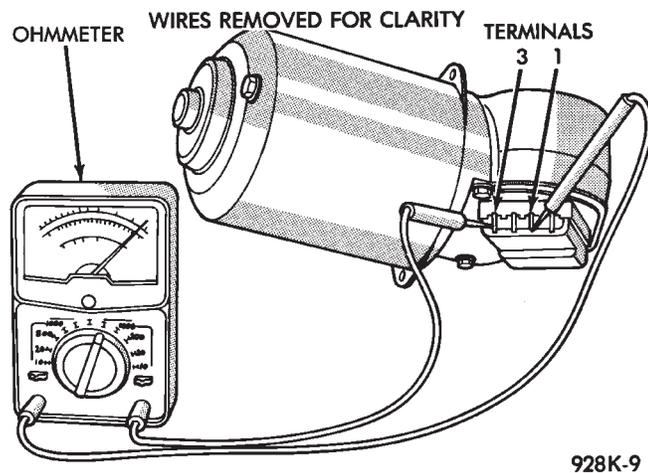

Fig. 14 Ohmmeter Between Terminals 3 and 1
(3) Connect an ohmmeter or continuity tester between terminals 3 and 1 (Fig. 14).